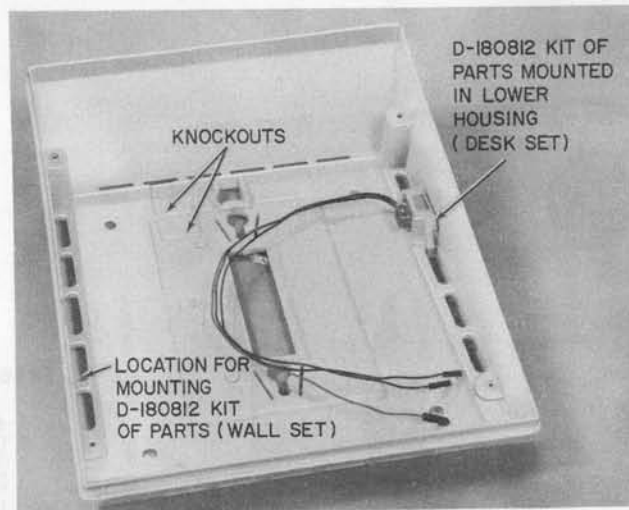

Fig. 13—Lower Housing Removed Showing Knockouts for Access by Adjunct Cords and Locations for Mounting D-180812 Kit of Parts
8.01 Knockouts are provided in the bottom rear of the lower housing (Fig. 13), to accommodate the additional cords associated with the connections of wiring options such as speakerphone, SPOKESMAN service, etc.